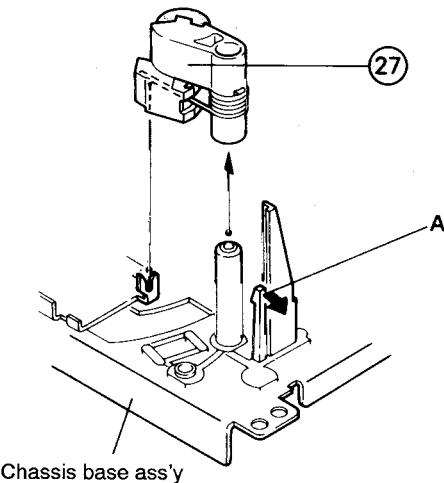

Fig. 7-26
■ Pinch Roller Ass'y (Refer to Fig. 7-26)
1. While spreading the pawl A retaining the right side pinch roller ass'y (27) in the arrow direction, pull out the ass'y upward.